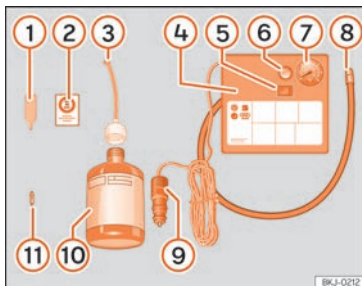

Fig. 98 Standard display: contents of the anti-puncture kit.
»» **Fig. 98:**
Screw in the inflator tube »» **Fig. 98** ⑧ again and check the pressure on the gauge ⑦.